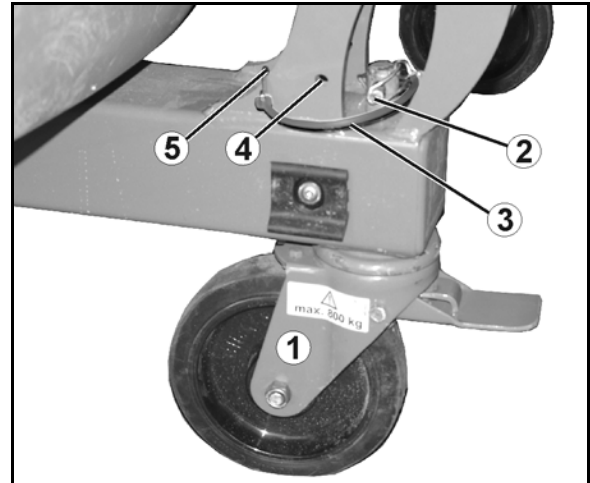

Fig. 56
The quick coupling system (Fig. 56/1)
- use the upper link pin (Fig. 56/2) of the coupling triangle, fit with a ball sleeve and secure with a linchpin.
- fit the lower link pin with ball sleeves, fit the spacer sleeves (Fig. 56/3) and secure with a linchpin.